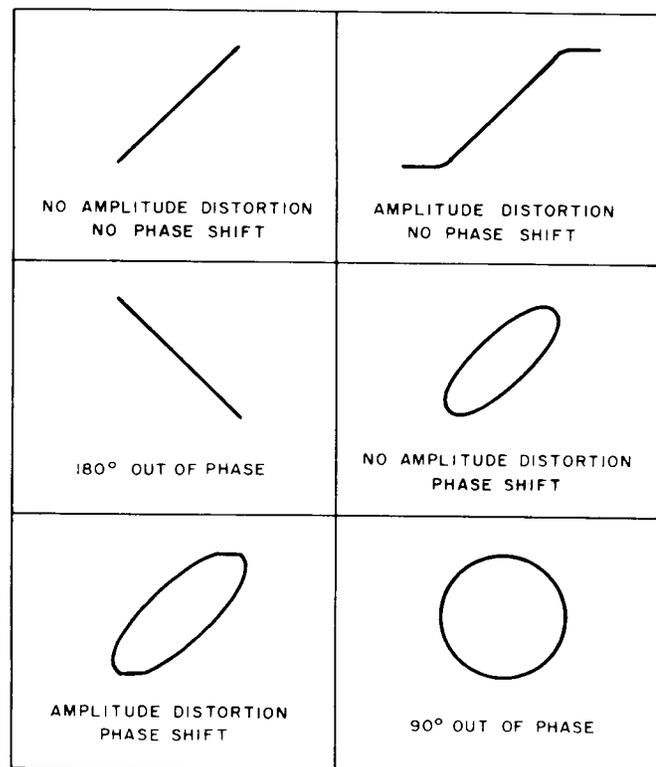

Figure 26. Typical Phase Measurement Oscilloscope Displays
7. Some typical results are shown in Figure 26. If the two signals are in phase, the oscilloscope trace is a straight diagonal line. If the vertical and horizontal gain are properly adjusted, this line is at a 45° angle.